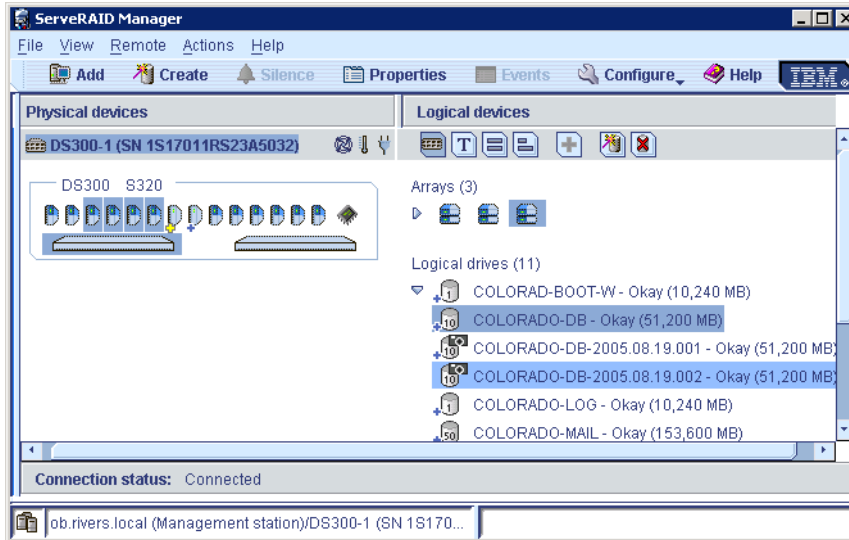

Figure 4-157 ServeRAID manager console with Flashcopy target logical drives
5. ServeRAID Manager console shows the created Flashcopy target logical drives with its own symbol to differentiate between regular logical drives and the Flashcopy target logical drives. Figure 4-157 on page 177 shows two Flashcopy target logical drives COLORADO-DB-2005.08.19.001 and COLORADO-DB-2005.08.19.002.